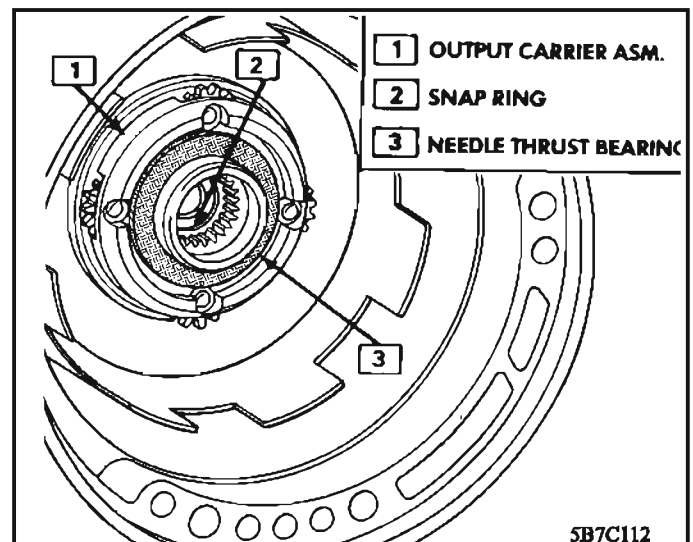

Figure 89 Output Carrier Needle Bearing
2. Install input ring gear to output carrier needle thrust bearing lip side face down. *See Figure 89.*
Use new snap ring and do not over stress on installing. *See Figure 89.*